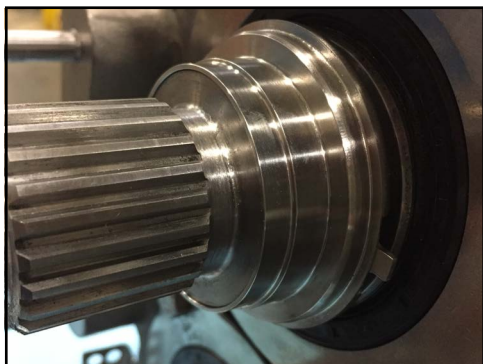

Figure 180 - Adjusting ring installed
25. Figure 180 shows the adjusting ring installed.